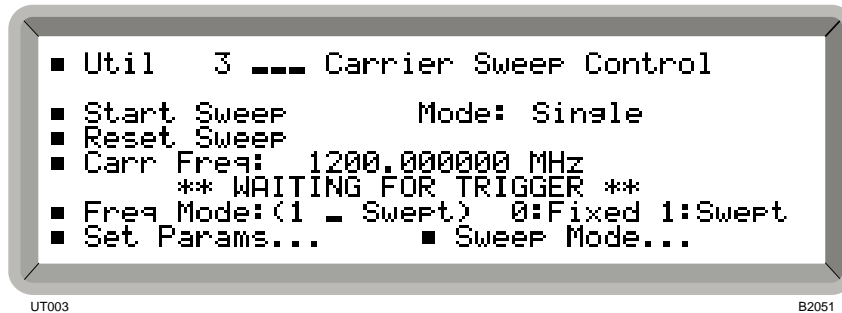

Fig. 4-14 Carrier sweep control menu (shown with sweep enabled)
- (1) Select the *Util 3: Carrier Sweep Control* menu. Initially this shows *Start Sweep* and the start *Carr Freq:* value together with the currently selected *Freq Mode:* (see Fig. 4-14).